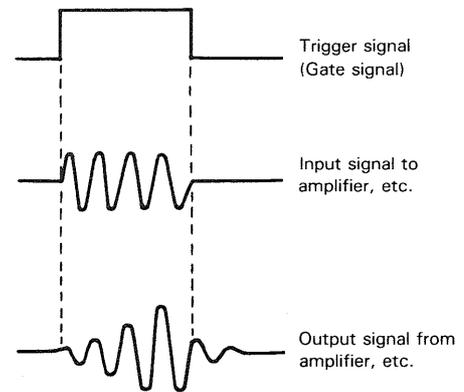

Fig. 7
When the SOURCE selection is in EXT, the input signal at the EXT TRIG INPUT ⑱ jack becomes the trigger. This signal must have a time or frequency relationship to the signal being observed to synchronize the display. External sync is preferred for waveform observation in many applications. For example, Fig. 7 shows that the sweep circuit is driven by the gate signal when the gate signal in the burst signal is applied to the EXT TRIG INPUT jack. Fig. 7 also